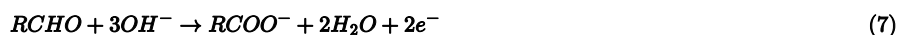
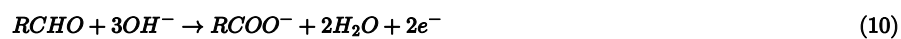

Figure 1: Tollens' test for aldehyde: left side positive (silver mirror), right side negative. Image used with permission from Wikipedia
Figure 2: Fehling's test. Left side negative, right side positive. Image used with permission from Wikipedia
Figure 1. Formation of a hemiacetal and acetal from the reaction between an aldehyde and an alcohol. Notice that the reaction is reversible and requires an acid catalyst. Image by Ryan Neff, CC BY-SA 3.0, via Wikimedia Commons
Figure 2. Formation of a hemiketal and ketal from the reaction between a ketone and an alcohol. Notice that the reaction is reversible and requires an acid catalyst. Image by Ryan Neff, CC BY-SA 3.0, via Wikimedia Commons
3. Figure 1 and Figure 2 by Ryan Neff on Wikimedia Commons. Reused under CC BY-SA 3.0 license. No changes were made.